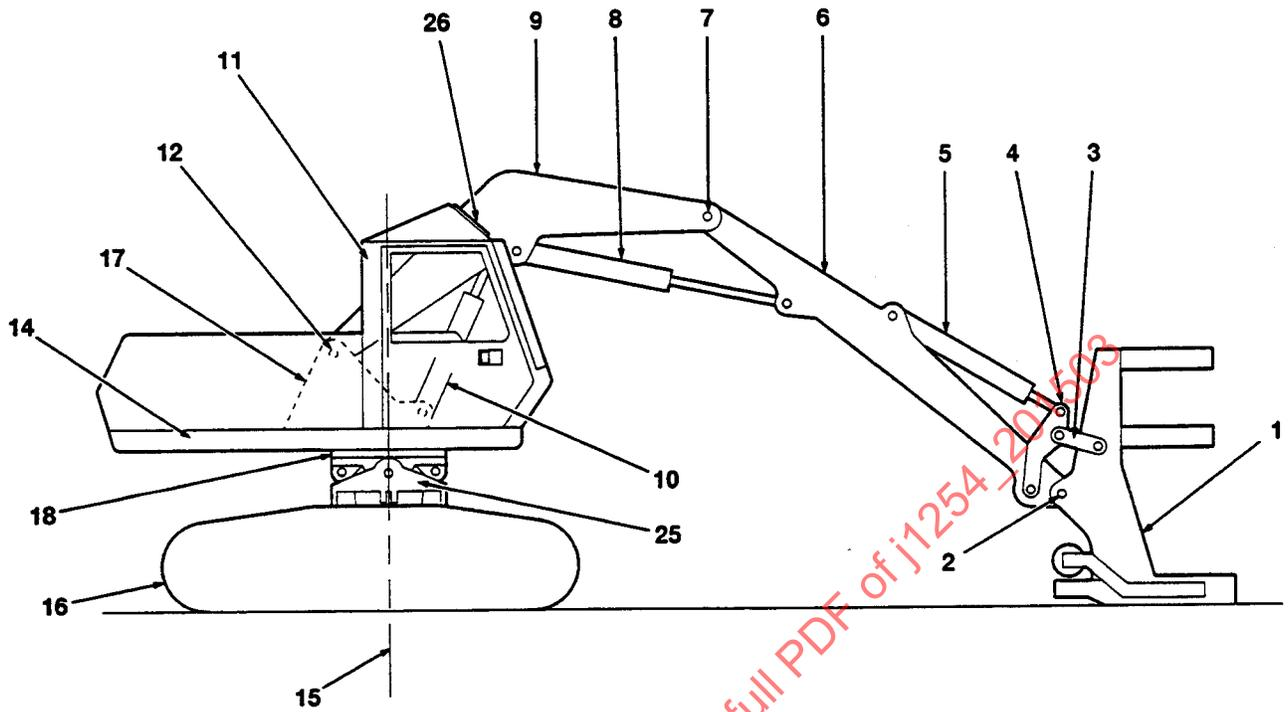
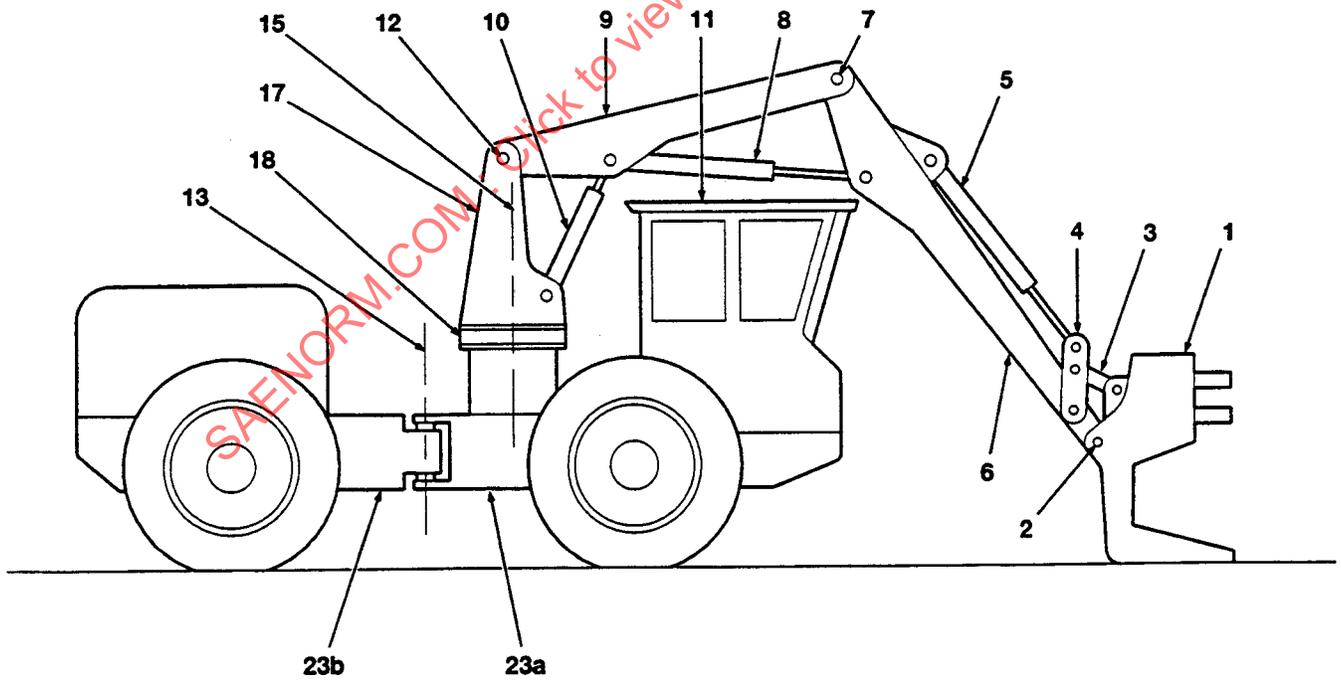

FIGURE 1—FELLER BUNCHER—SWING TO BUNCH—TRACK TYPE
FIGURE 2—FELLER BUNCHER—SWING TO BUNCH—WHEEL TYPE
- a. **Swing-to-Bunch**—See Figure 1 and Figure 2. This type is characterized by movement of the booms and felling head during the bunching operation.